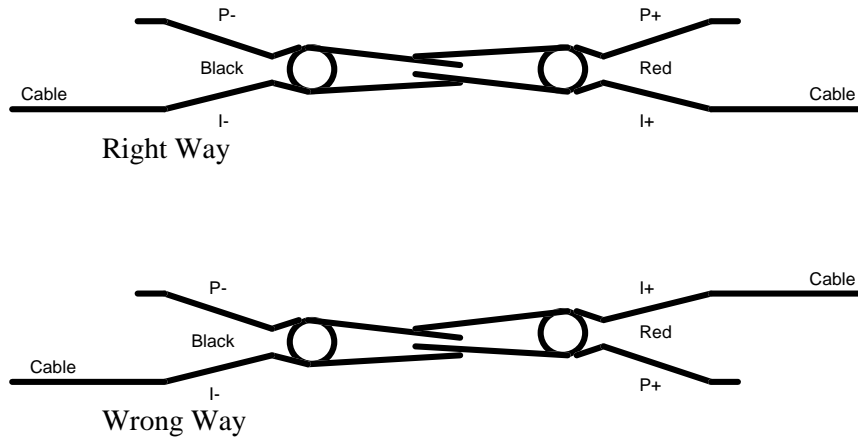

Figure 2-1: Test Lead Positioning for Zeroing
- Short the two clips of the 1880 test leads (or other lead set/fixture) together. The P+, P- should be shorted directly together and I+, I- shorted together. When using the 1880 Cable Set, Figure 2-1 shows how the leads should be positioned to accomplish this, i.e. the clips should be symmetrically positioned with the incoming cables on the same side.